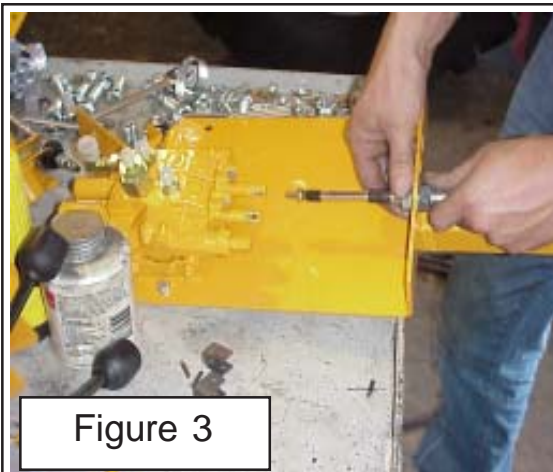
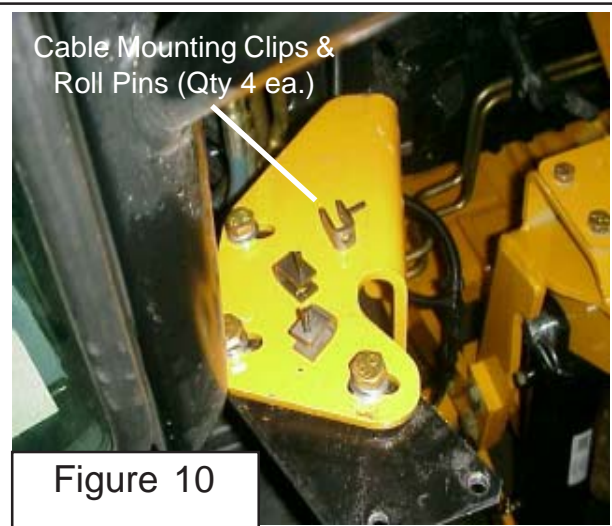
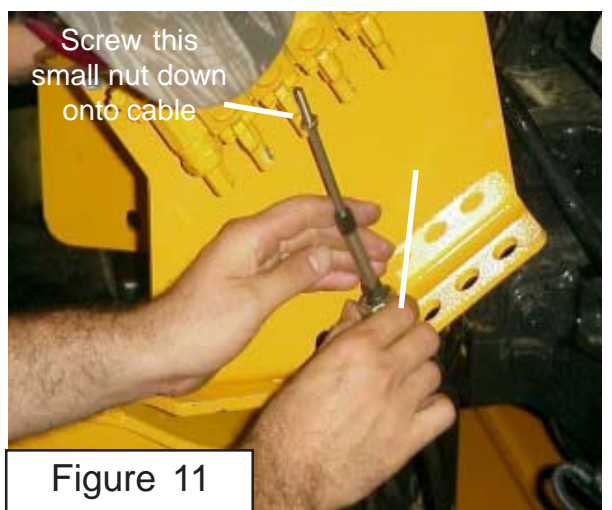
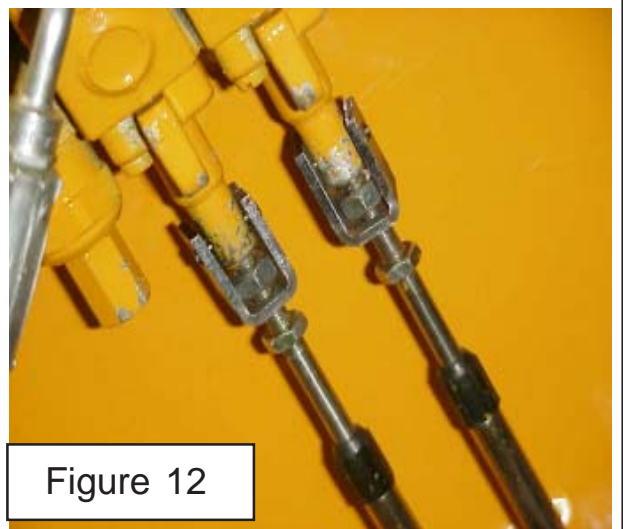

Figure 3
Figure 10
Figure 11
Figure 12
4. Disconnect Oil tank Return Hoses. The oil return hoses from the wing(s) motor(s) and the cylinder control valve system is returned on the RH side of the tractor to the front and to through the oil return filter. If the interstater was ordered as model to use the tractor hydraulic oil system for supply to the control valve for the cylinders there will be no return hose from the cylinder control valve, see the hydraulic schematic for system using tractor hydraulics (See Figure 3). The fittings at the hydraulic tank for the return hoses will not need to be removed to remove the hydraulic tank (See figure 4).
2. Pumps Removed The pumps removed the model using the auxiliary pump will have the drive pulley and belt still on the driveshaft. Model that do not have the auxiliary pump will have a spline coupler. (See Figure 3).
3. Connect Remote Control Cables to Valve Bracket. Shown here are cables being connected t the valve mount bracket while it is lying on the bench (See Figure 3). It can be done after bolting it to the tractor as well.
1. Control Valve Cable Clips. Locate the four cable mounting clips and four roll pins (shown laying on muffler bracket for illustration only in Figure 10). Start the roll pins into the clips as shown through one side only (See Figure 10). Insert the Remote Cable through the Control Valve Mount Bracket (See Figure 3). Install the large cable retaining / Adjusting nut onto threaded portion of cable housing (See Figure 11). DO NOT tighten this large nut until later. On the tip of the threaded end of the cable there is a 1/4" nut. Screw this nut down onto cable. Insert the cable clip down over threaded cable end (See Figure 12). Find the four for dual wing and two for single wing 1/4" nut supplied, install one onto end of cable down into clip. This nut should be screwed onto cable at least the thickness of the nut, do not screw it on so far that it will interfere with the operation of the cable. Using the nut that was already on the cable screw the nut out until it is against the clip from the bottom side, tightening this nut against clip will lock the other nut inside of clip. (See Figure 12).